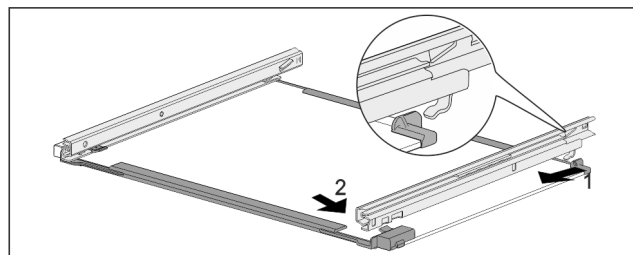

Fig. 182 Glass shelf with rails
- Hook in rail at the back. Fig. 182 (1)
- Hook in rail at the front. Fig. 182 (2)